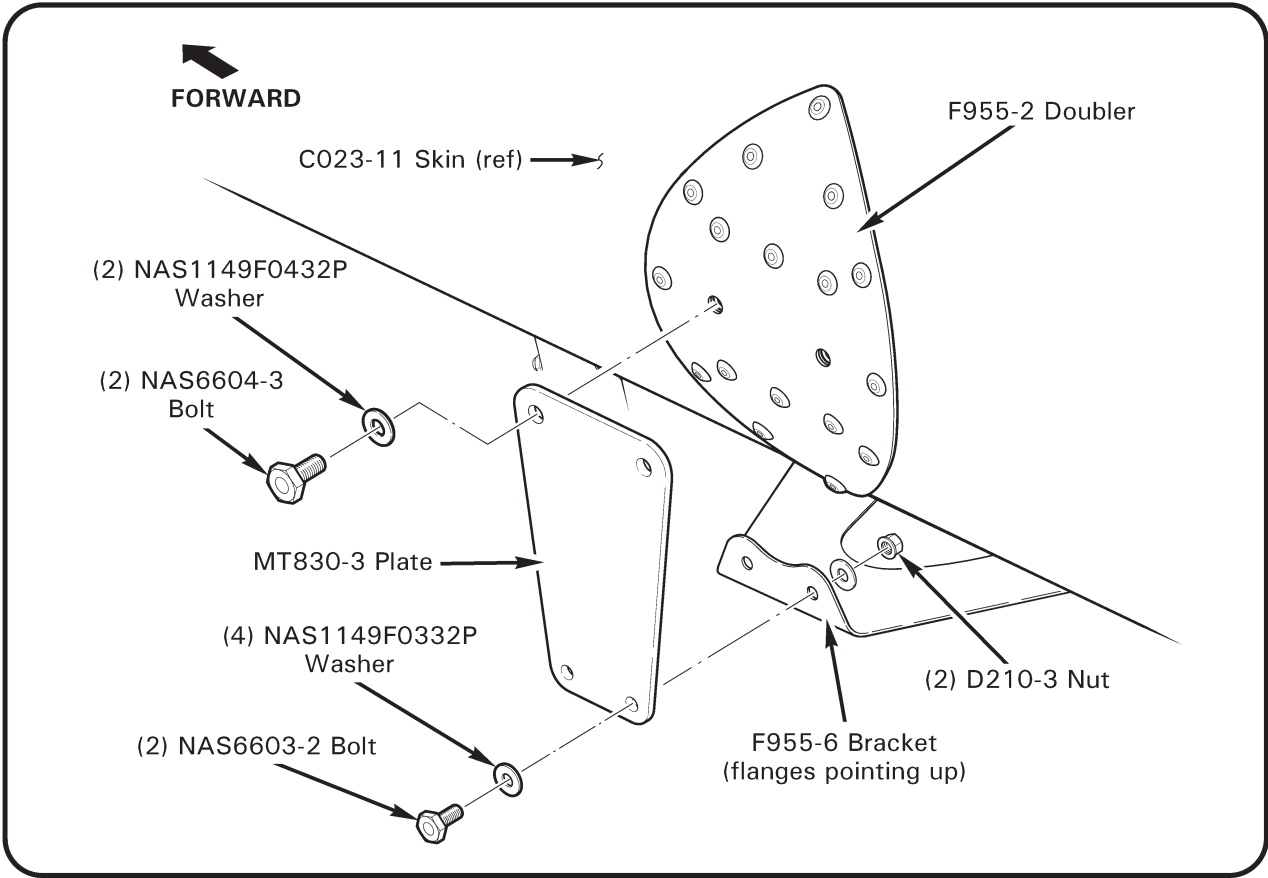
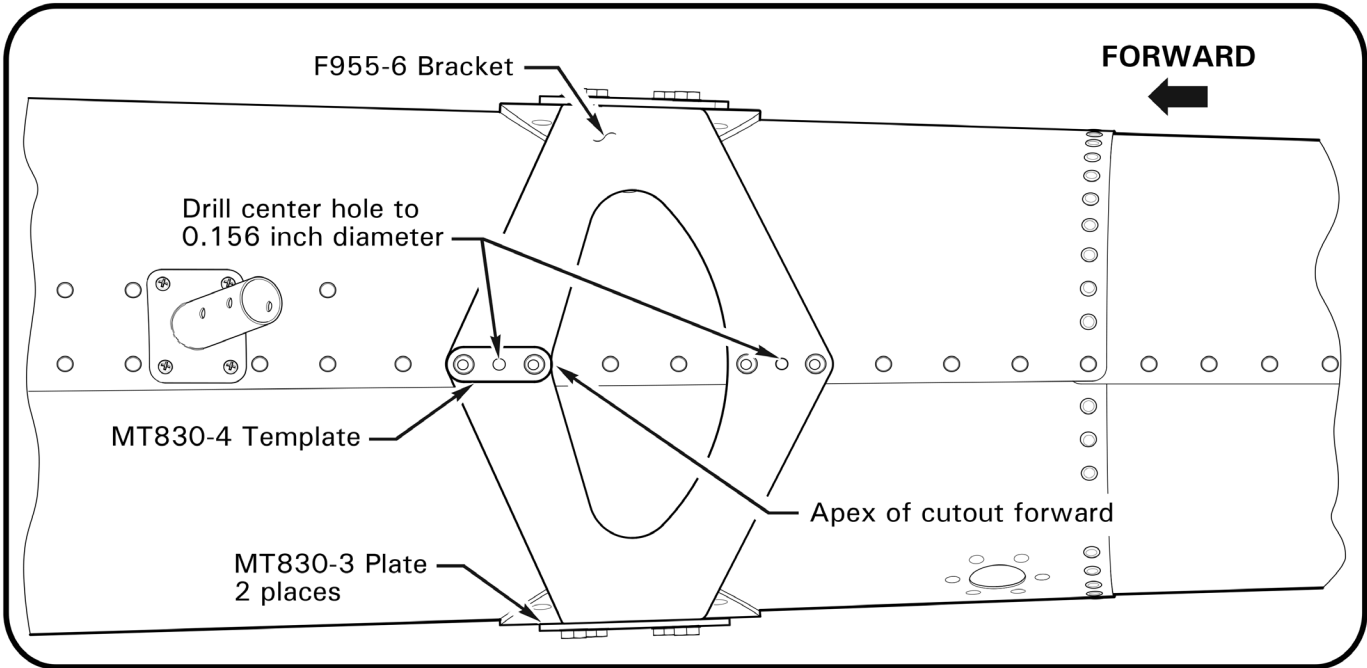

FIGURE 8 MT830-3 plate installation
FIGURE 9 Drilling of F955-6 bracket
15. Refer to Figure 8. Using hardware provided in kit, install one MT830-3 plate to each side of tailcone, and attach F955-6 bracket, with apex forward (as shown in Figure 9) and flanges pointing up, to plates.
16. Refer to Figure 9. Using hole finder and #30 drill fitted with drill stop, locate holes in tailcone and progressively match drill & cleco (4) holes thru F955-6 bracket. Enlarge holes in bracket & tailcone to 0.156-0.164 inch diameter using #21 drill fitted with drill stop. Temporarily attach MT830-4 template to bracket & tailcone using clecos. Drill 0.156-0.164 inch diameter center hole thru template, bracket & tailcone. Repeat process in 2nd position. Remove MT830-4 template, MT830-3 plate, and F955-6 bracket. Deburr holes & clean up debris. At installer's discretion, chemically treat and/or prime/paint hole edges as described in NOTE in step 11.